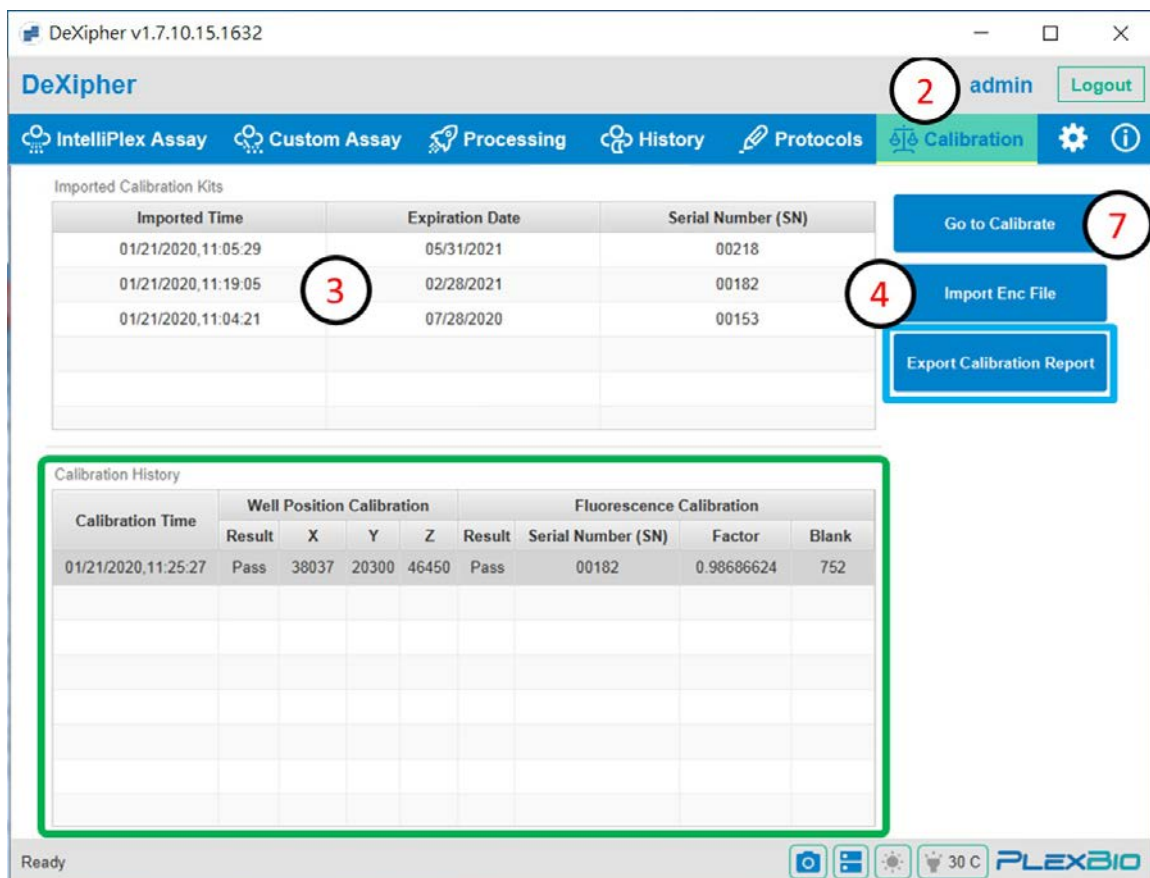

Fig. 46. Calibration tab
- Go to the **Calibration tab** (Fig. 46).
The “Calibration History” table in the **Calibration tab** also summarizes the calibration results of each calibration event (Fig. 46, green box).
To Export a calibration report, select the calibration event and click “Export Calibration Report” in the **Calibration tab** (Fig. 46, blue box).